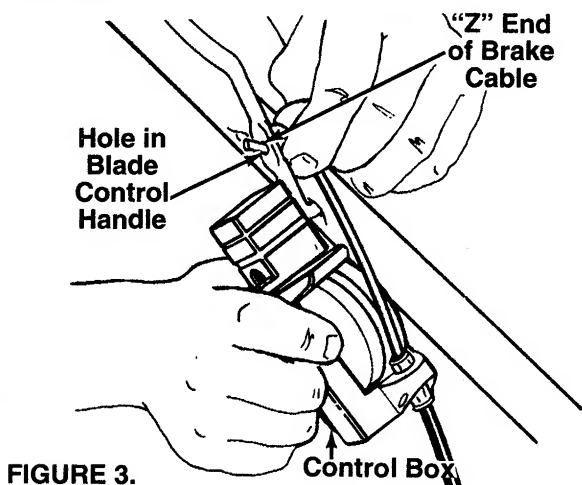

FIGURE 3.
2. Holding the control box near the left side of the upper handle (control box must be inside the handle), hook the "Z" end of the brake cable into the control handle from the outside to the inside. See figures 3 and 4.